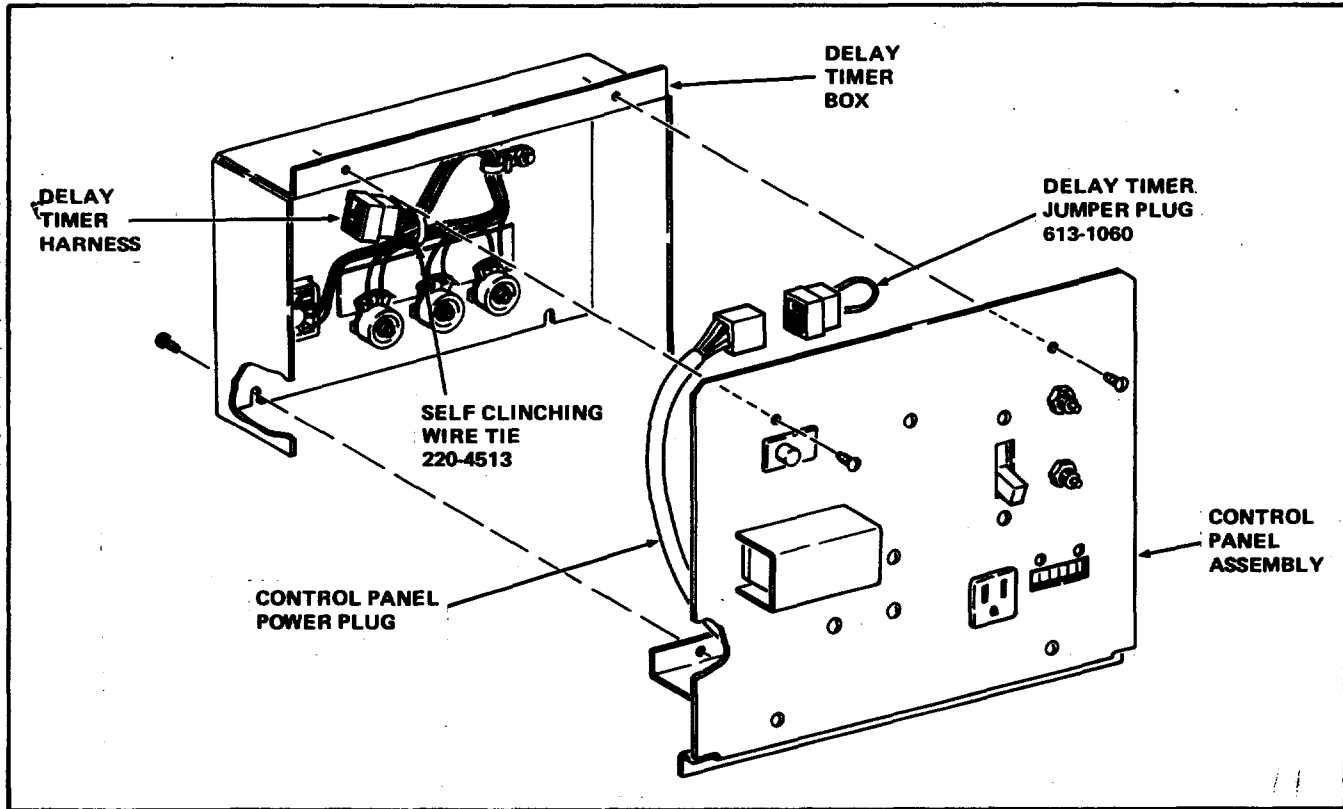

FIGURE 14
2. Remove four No.8-32 x 1/4 Round Head Thread Cutting Screws attaching the Delay Timer Box to the Control Panel Assembly. See Figure 14.
3. Disconnect the Delay Timer Harness from the Control Panel Power Plug. See Figure 14.
4. Connect the Delay Timer Jumper Plug, Part Number 613-1060, included in the Kit, to the Control Panel Power Plug. See Figure 14.
5. Tie the Delay Timer Harness away from the other electrical components by using a Self Clinching Wire Tie, Part Number 220-4513, included in the Kit. See Figure 14.
6. Attach the Delay Timer Box to the Control Panel Assembly using four No.8-32 x 1/4 Round Head Thread Cutting Screws removed in Step F-2. See Figure 14.